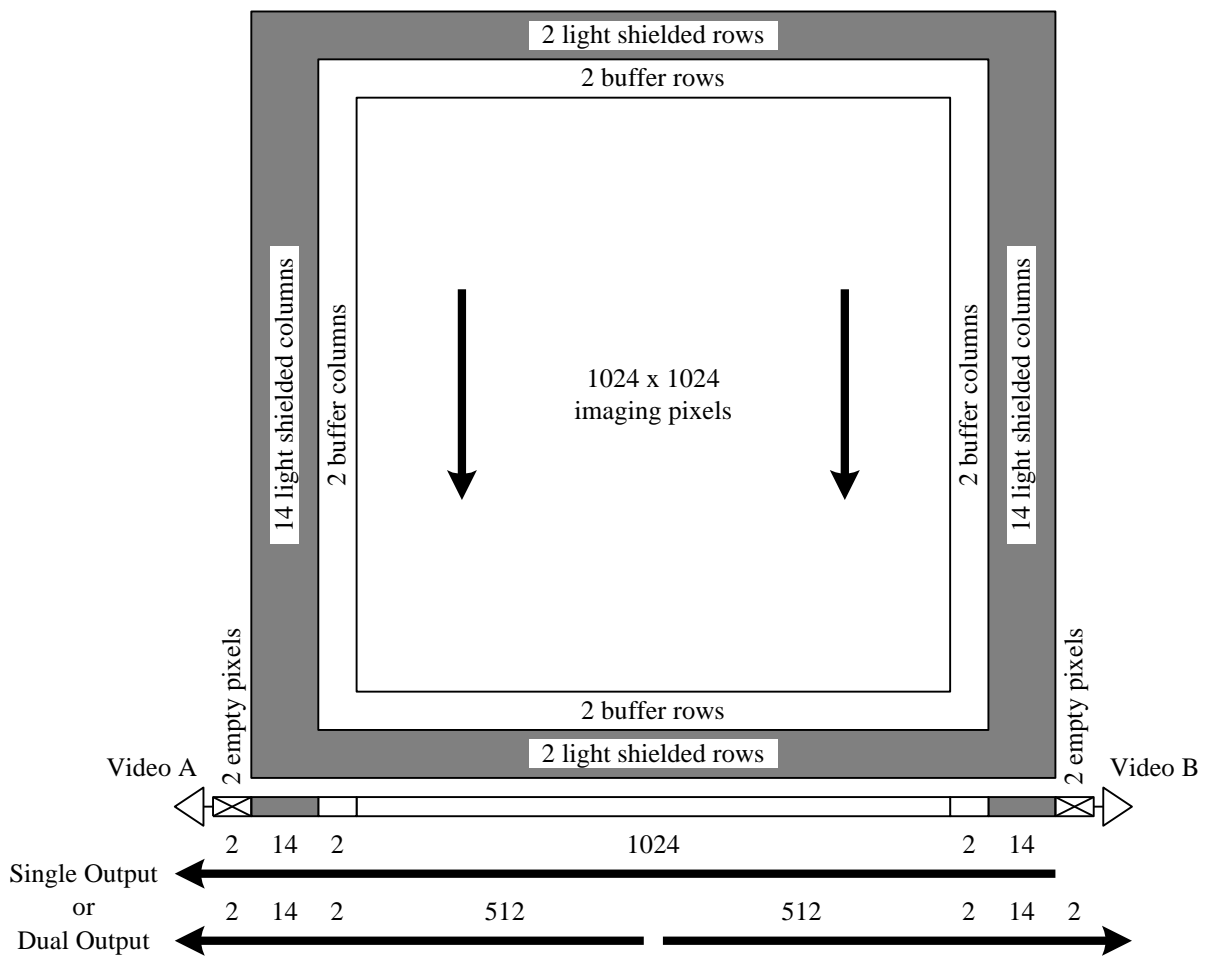
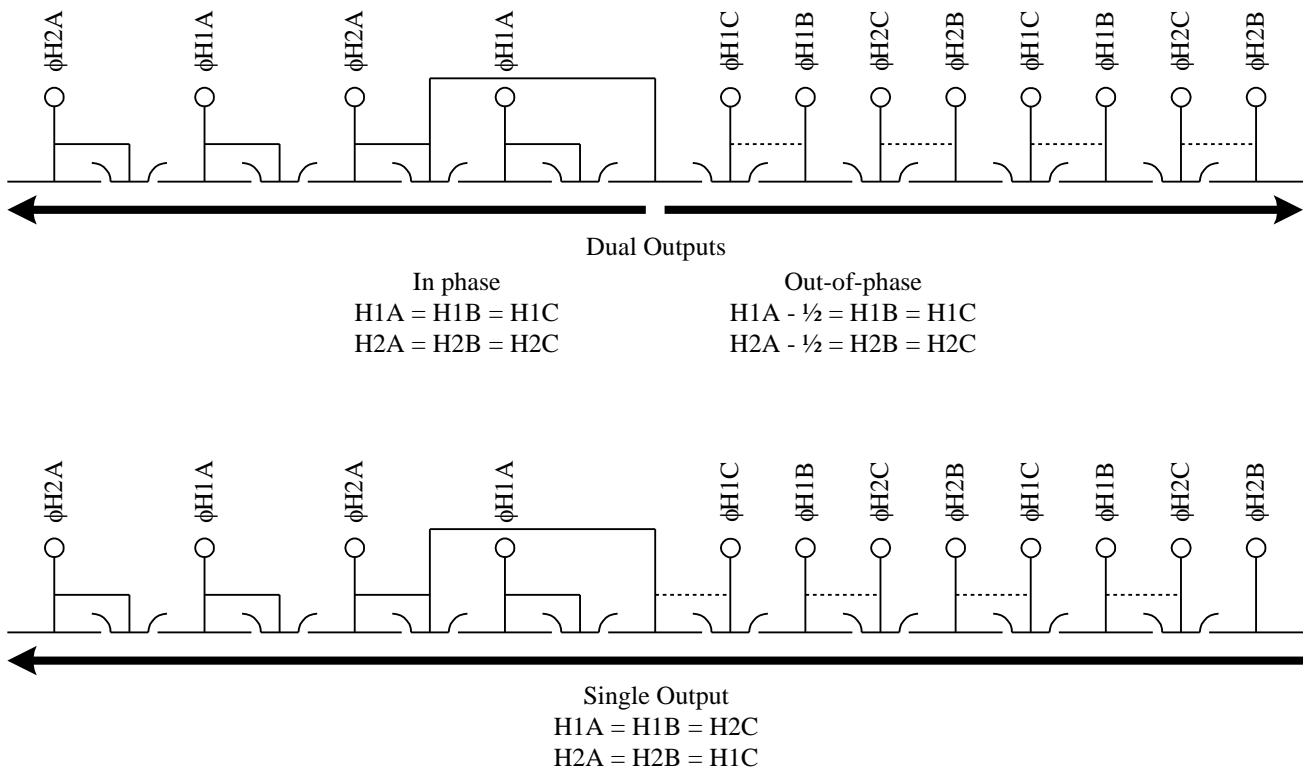

Figure 1: KAI-1003 Sensor Architecture
Figure 2: Horizontal CCD Registers
The single horizontal CCD register is split into two halves to allow a variety of line readout modes, as shown in Figure 1 and Figure 2. The A output half of the register is a true two-phase design, which results in unidirectional transport using phases H1A and H2A. The B output half of the register is a pseudo two-phase design, which allows bi-directional transport using phases H1B, H2B, H1C and H2C. Dual output is achieved with all of the first phases identical and all the second phases identical. If the clocks of H1A and H2A phases are shifted by one half cycle, the output remains dual with the outputs alternating, so that only one analog-to-digital converter is necessary. Finally, single output of the entire image from the A output is obtained by complementing the C phases, which reverses transport in the B half of the horizontal CCD.
In addition to the 1024 (H) by 1024 (V) imaging pixels, there are active buffer, light shielded and empty pixels, as shown in Figure 1. A two-pixel border of active buffer pixels surrounds the imaging area. These buffer pixels respond to illumination but are not tested for defects and non-uniformities. Two light shielded rows lead and follow each frame, and 14 light shielded columns lead and follow each line. The light shielded columns are tested for column defects and can be used for dark reference. Only the center 10 columns by 1028 rows of light shielded region on each side can be used for dark reference due to light leakage into the border of two pixels at the edges. Finally, two empty pixels occur at the beginning of each line, which are empty shift register cycles not associated with any vertical CCD columns. Empty pixels may also occur at the end of the line, depending on the timing.